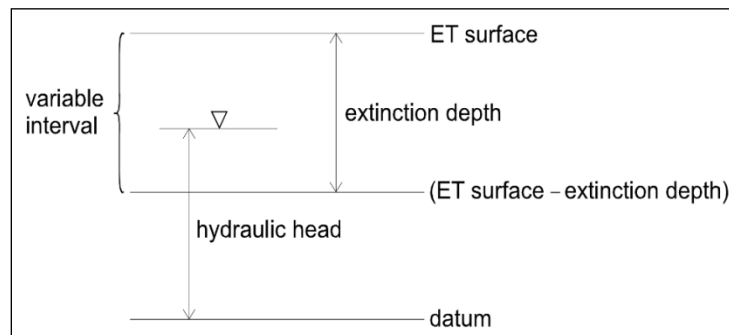

Figure 1 ET model, from Banta (2000)¹
The EVT package requires three parameters to determine evapotranspiration: the evapotranspiration (ET) surface elevation, the maximum ET rate, and the extinction depth. When the head in a cell is at or above the ET surface, ET occurs at the maximum ET rate. When the head is below the extinction depth, ET is zero. In between these two points, the ET varies linearly (Figure 1).